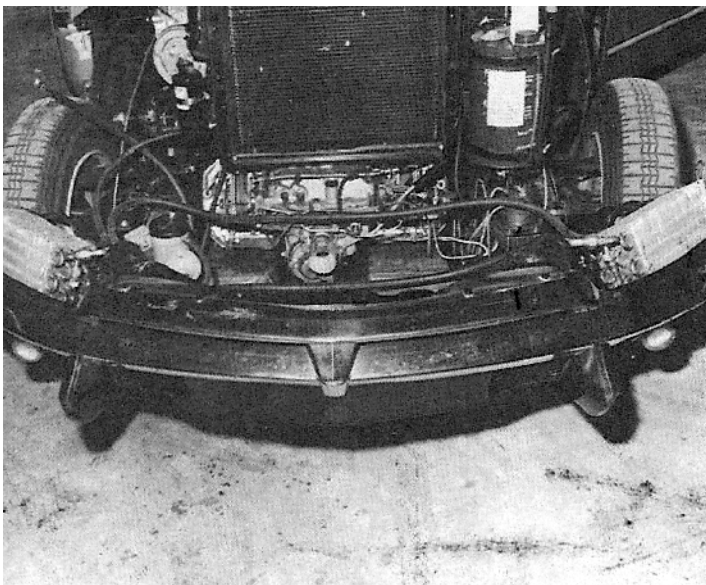

FIG 9
1. Notice how flange of shroud's are positioned between the first fin and the end plates of the coil. Remove the (4) #8 x 1/2" sheet metal screws that hold the air intake shroud of both condenser assemblies. Set shrouds aside.
2. Attach 90 degree end of the 74" long #8 freon hose to upper fitting of the left hand condenser. Next attach the 60" long #6 freon hose to lower fitting and the other end of the hose to the upper fitting of the right hand condenser. Now attach the 29" long #6 freon hose to lower fitting of right hand condenser. See FIG: 9 . (Use back-up wrench and refrigeration oil on all fittings).